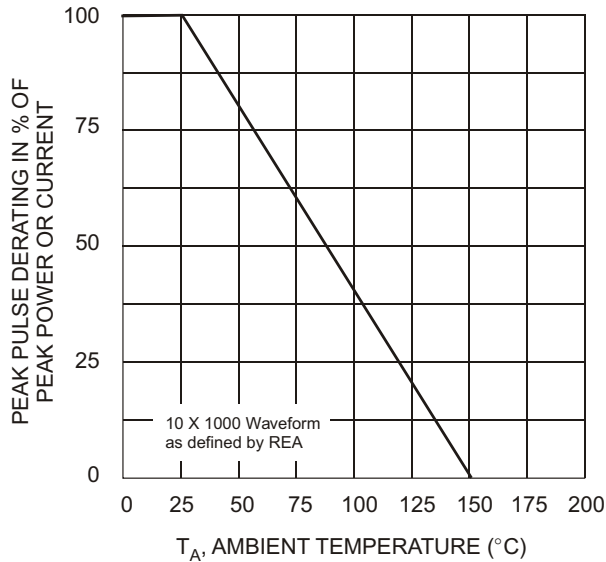
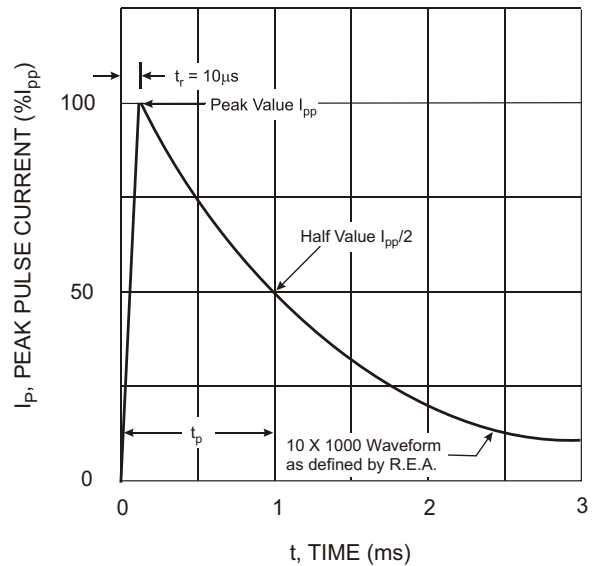

Fig. 1 Pulse Derating Curve
Fig. 2 Pulse Waveform
2. Non-repetitive current pulse per Figure 2 and derate above  $T_A = 25^\circ\text{C}$  per Figure 1.